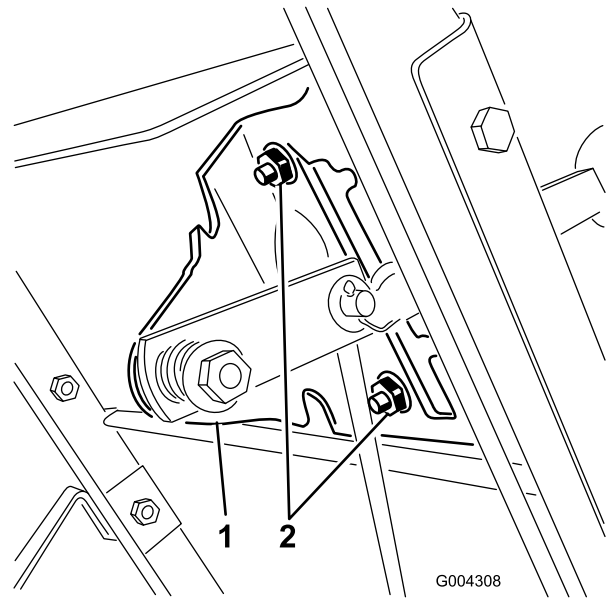

Figure 29
3. Loosen the flange nuts that secure the selector plate to the control panel (Figure 29).